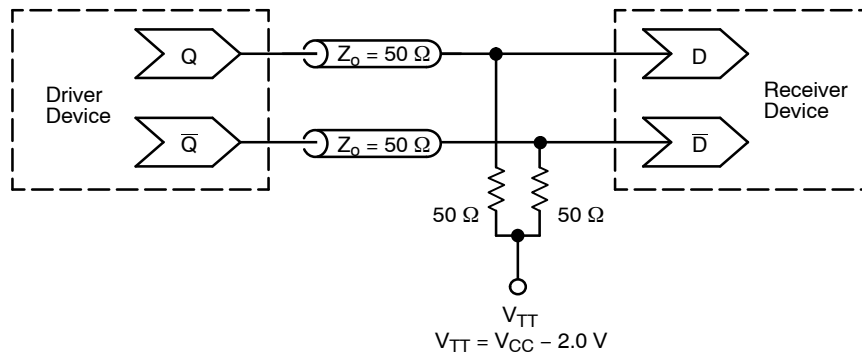
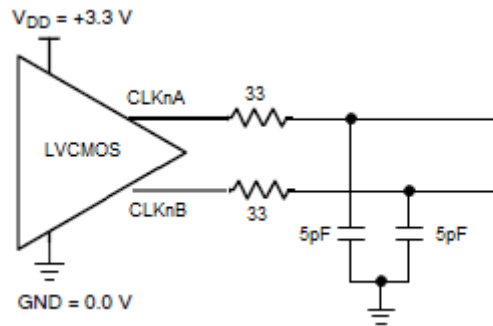

Figure 9. Typical Termination for LVPECL Output Driver and Device Evaluation (See Application Note AND8020/D – Termination of ECL Logic Devices.)
Figure 11. Typical LVCMOS Output Test Setup for Evaluation
13. Measured by using a 25 MHz crystal as clock source. All LVPECL outputs are loaded with an external R_L = 50 Ω to V_{DDO} – 2 V (Figure 9); LVCMOS outputs loaded with R_S = 33 Ω, C_L = 5 pF, 5" 50 Ω trace, (Figure 11).